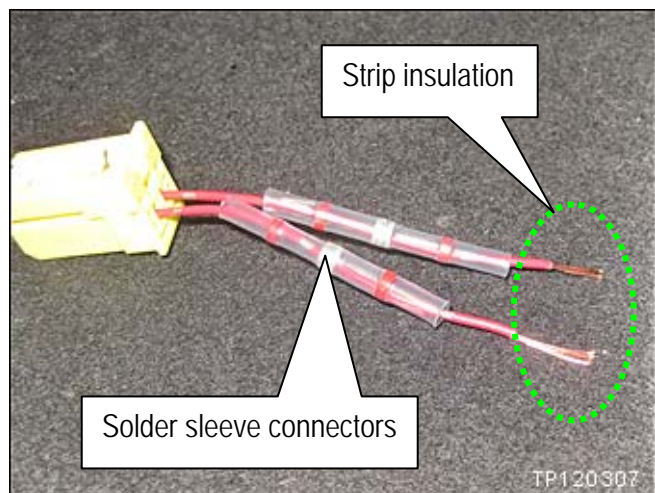

Figure CR29
27. Install solder sleeve connectors on the wires as shown in Figure CR29.